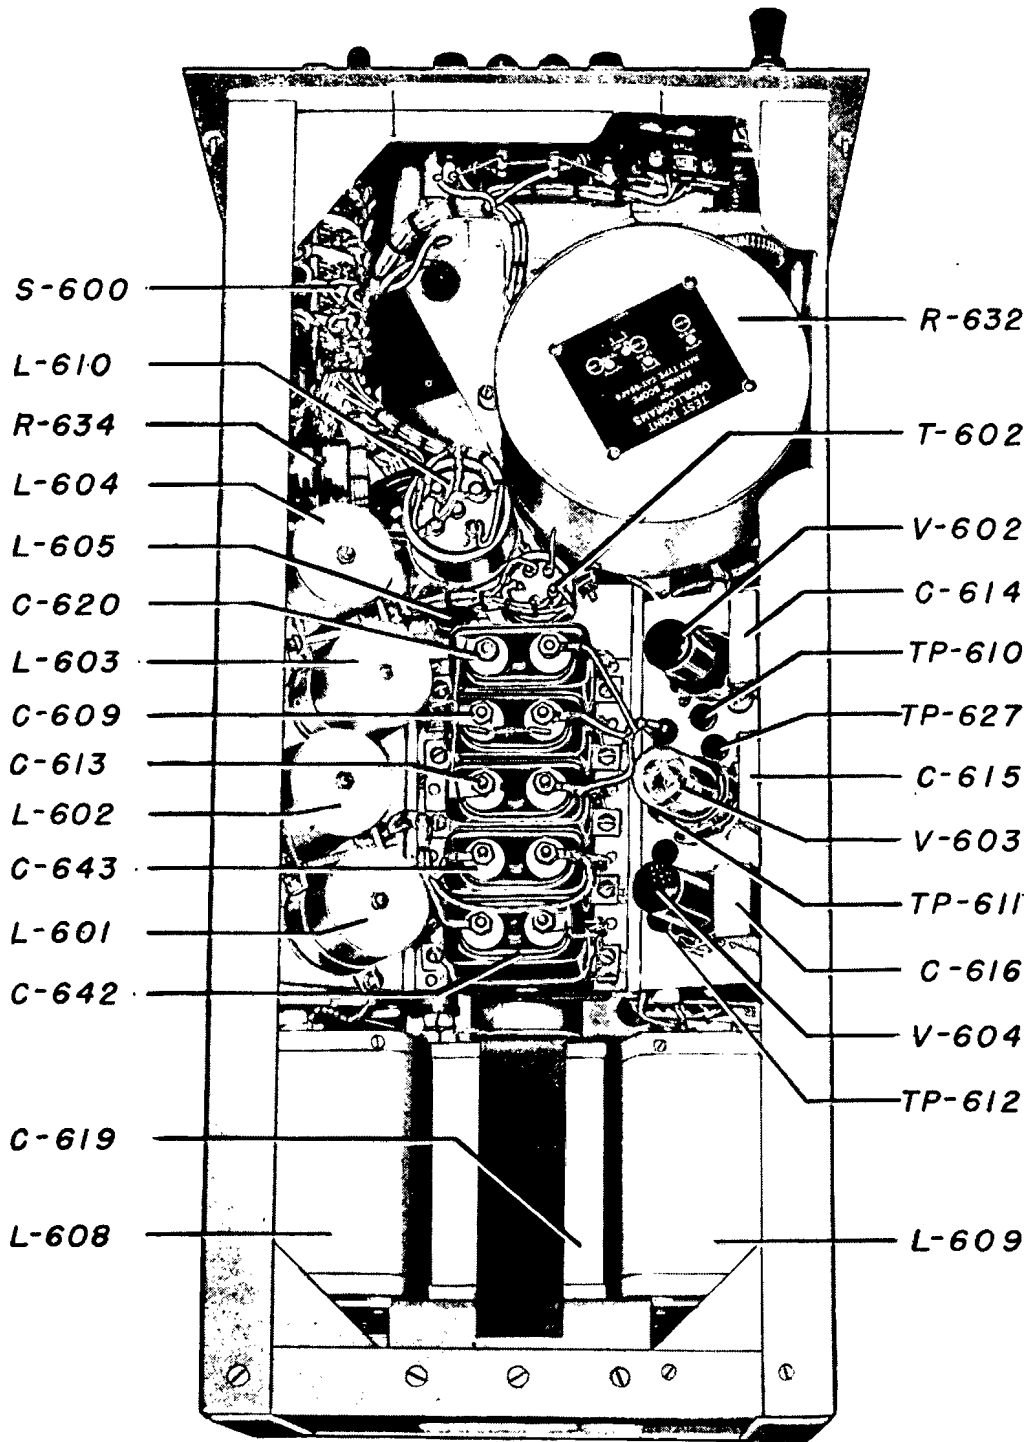

Figure 7-106. Range Scope, Bottom View
so that one of its markers coincides with the start of the sweep. Turn the MARKERS switch on the front panel of the Range Scope to the ON position. If the range marker coil for the 4-mile range is accurately set, the range marker pips will coincide with the calibrator marker pips. If they do not, or if there is a difference in position between the calibrator markers and the range markers at some points, the range markers are inaccurately adjusted. To adjust the markers, loosen the locknut and reset the screwdriver adjustment on the 4-mile range marker coil, L-601. See Fig. 7-106.
(3) These screwdriver adjustments are SEALED ADJUSTMENTS and should not be moved unless absolutely necessary. Reseal with glyptol, after securely locking the adjustment. Check to make certain that the adjustment is not changed when the lock is being tightened.
(4) Repeat the check, and the adjustment on the other ranges, if necessary. Use the marker calibrator range and the range scope range which permits lining up at least two of the markers with corresponding pips from the calibrator. L-602 is the 20-mile range marker inductor, inductor L-603 is for the 80-mile range and inductor L-604 is for the 200-mile range. These inductors are shown in Fig. 7-106.
(5) With the range scope markers accurately aligned, it will be possible to check the PPI scope markers and the markers in the remote PPI indicators. This may be done by turning on the PPI MARKER switch on the Console Receiver and comparing the markers generated in the PPI Indicators with the range scope markers.